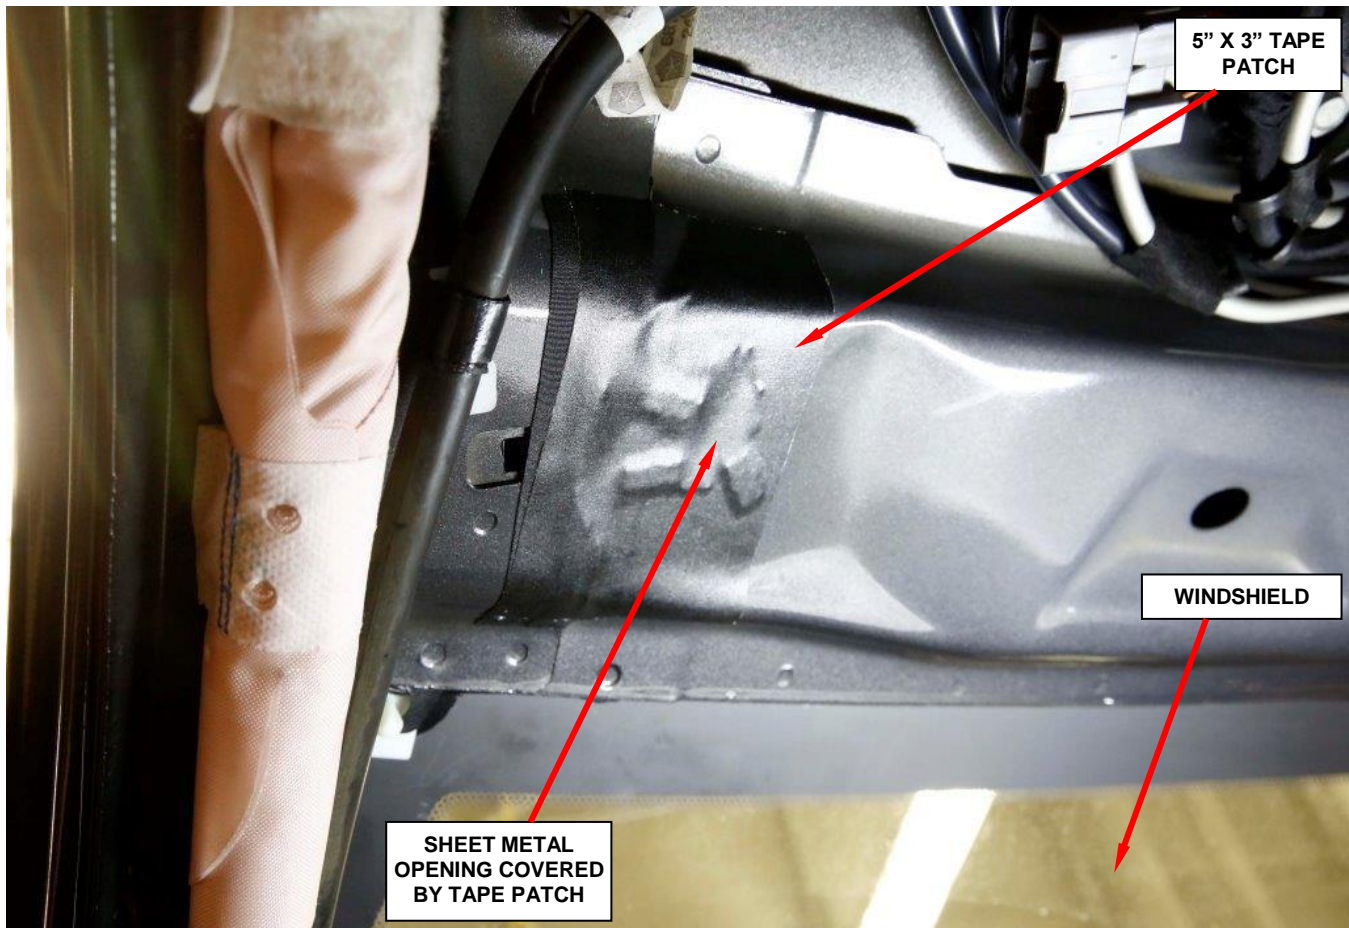

Figure 21 – Apply 5"x 3" Tape Patch over the Abrasion Tape (left side shown)
47. Apply one piece of (5"x 3") tape patch over the tape applied in Step 46 (Figure 21).